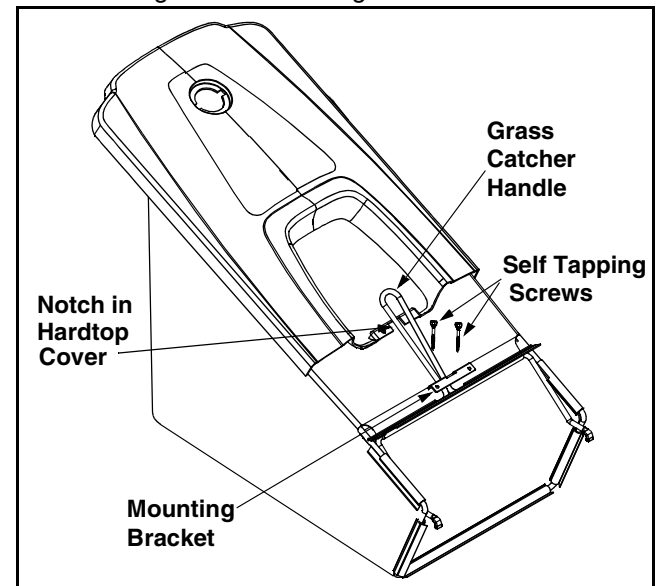

Figure 8
- Position the mounting bracket facing down between the front of the handle and the front of the hardtop cover so that the holes in the cover line up with the holes in the bracket. Insert the self tapping screws down through the hardtop cover and mounting bracket. See Figure 8.